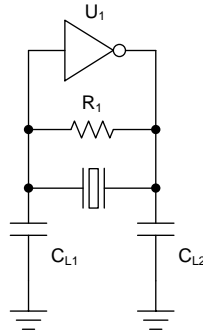

Figure 22. Pierce Type Oscillator
Both crystal oscillators are pierce type oscillators that can be seen in Figure 22. In this type of oscillator, the crystal and the load capacitors form a pi-filter providing a 180° phase shift to the internal amplifier keeping the oscillator locked at the specified frequency. For this frequency to be correct, the load capacitance must be dimensioned properly based on the crystal's capacitive load (CL) parameter.